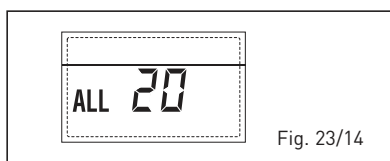

Fig. 23/14
– **ANOMALIA GUASTO Sonda MANDATA PRIMA ZONA MISCELATA “ALL 21”** (fig. 23/15)